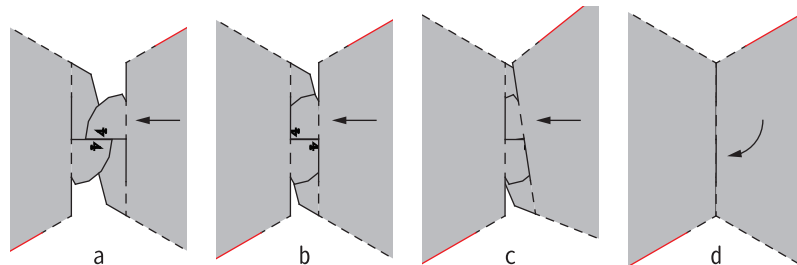

Fig.3 受け差し両手フラップの組み合わせかた
5. 両手フラップ同士の接合は少しむずかしいかもしれませんが、Fig.3 のようにしてください。
5. When you assemble a slot and tab pair (they are half slot and half tab), you will need to take a little more care because they are a little tricky at first, but assemble the pair as pictured on Fig 3.